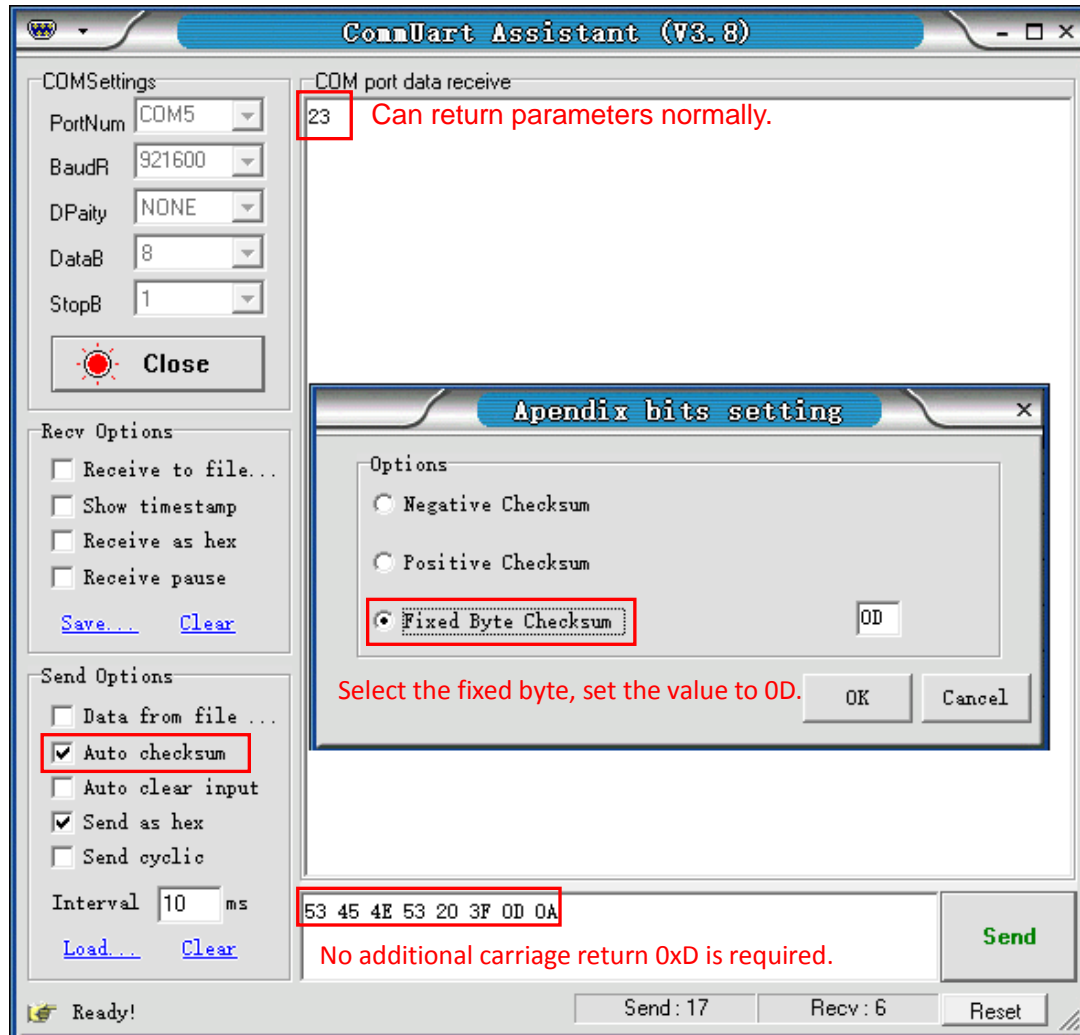

Fig.111 Checksum Settings
2) You just need to click Auto checksum and choose Fixed Byte Checksum. Finally, set the additional digit to <0D> as Fig.111.